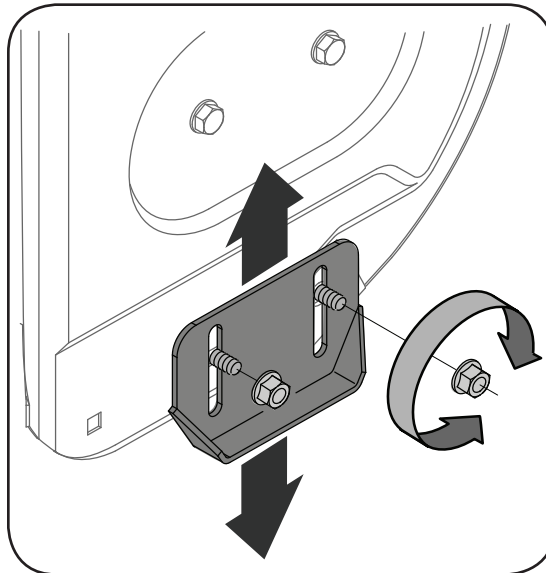

Figure 5-4 - Standard Skid Shoe
1. Adjust skid shoes by loosening the four lock nuts and carriage bolts and moving skid shoes to desired position. See Figure 5-4 or 5-5.